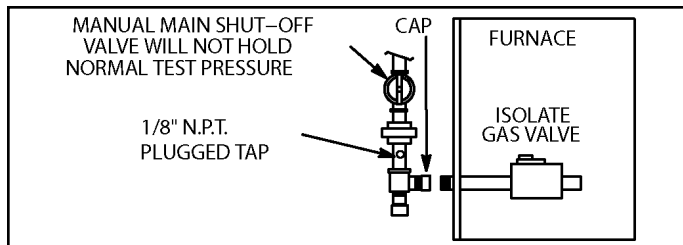

Figure 57.
5. A 1/8" N.P.T. plugged tap or pressure post is located on the gas valve to facilitate test gauge connection. See Figure 57.
When testing pressure of gas lines, gas valve must be disconnected and isolated. See Figure 57. Gas valves can be damaged if subjected to pressures greater than 1/2 psig (3.48 kPa).